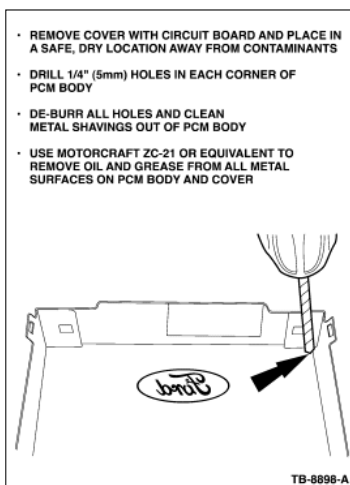

Figure 3 - Article 07-14-1
5. With the PCM cover removed, drill a 1/4" hole on each of the four (4) corners of the PCM cover. Get as close to the corner as possible. (Figure 3)
6. De-burr the edges on both inside and outside surfaces. (Figure 3) Be sure to vacuum off all chips and wipe off all metal dust and any machining oil.